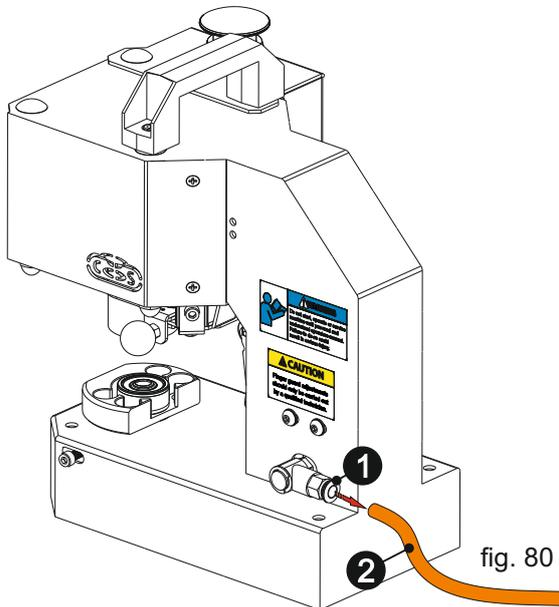

fig. 80
Shut down your air source and unplug the air hose from the machine. In order to unplug the air hose from the machine, push the blue part on the air entrance ① to the machine direction and while doing that pull the air hose ② at arrow direction as shown in above (fig. 80).